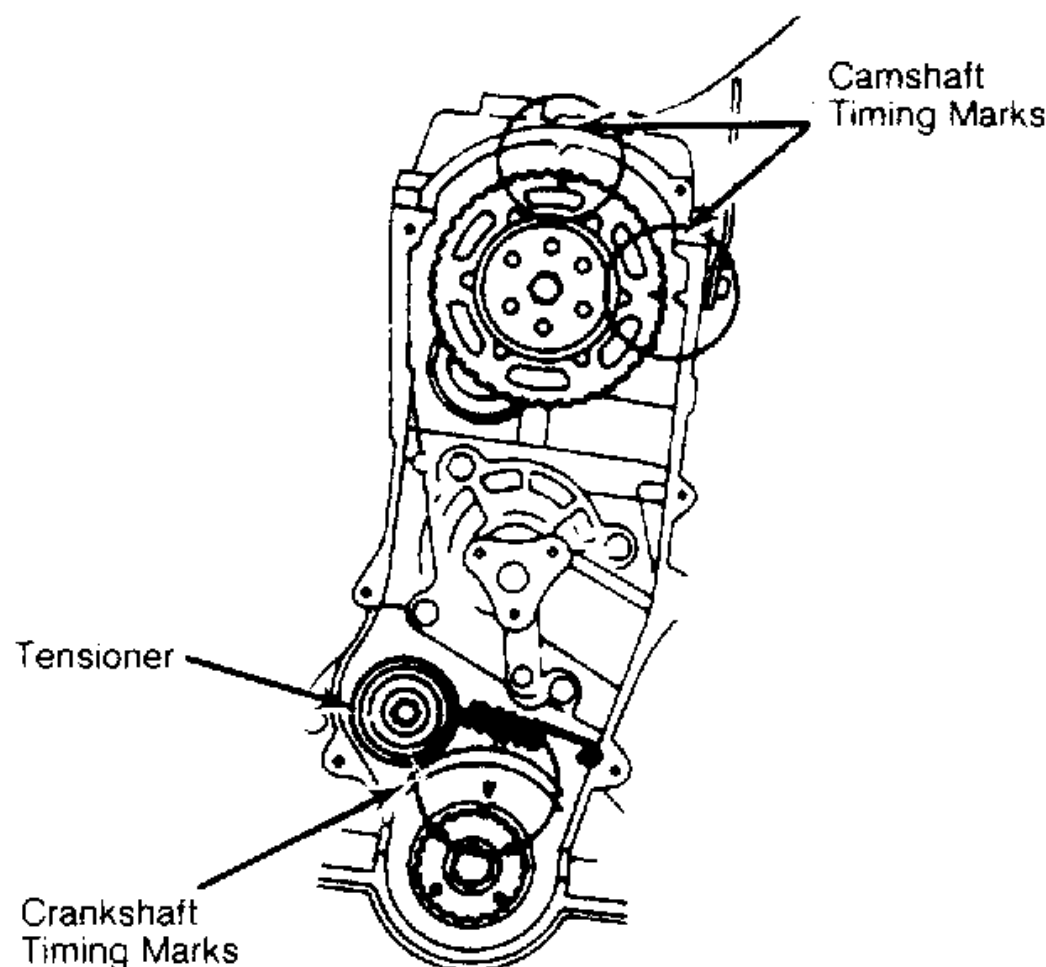

Fig. 3: Aligning Camshaft & Crankshaft Timing Marks (1.3L)
1. Ensure timing belt and sprockets are clean and not worn or damaged. Align crankshaft and camshaft timing marks. See Fig. 3. No. 1 cylinder must be at TDC of compression stroke.